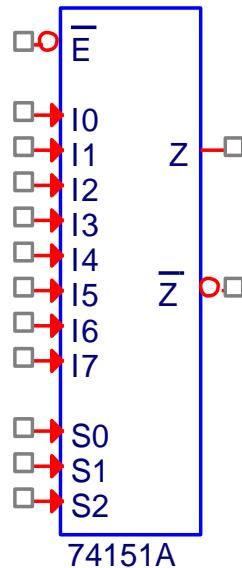

Figure 8.4
1. Design a BCD invalid code detector using a 74151A. Show the connections for your design on Figure 8.4.